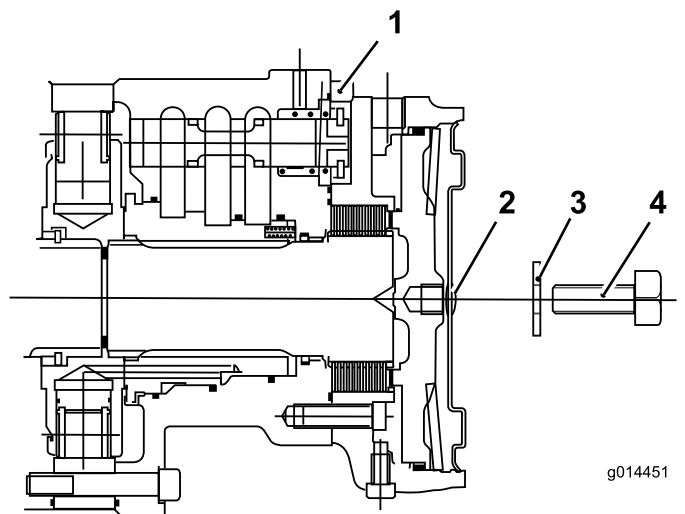

Figure 54
- Assemble the hex plug into the motor end plate (Figure 54).